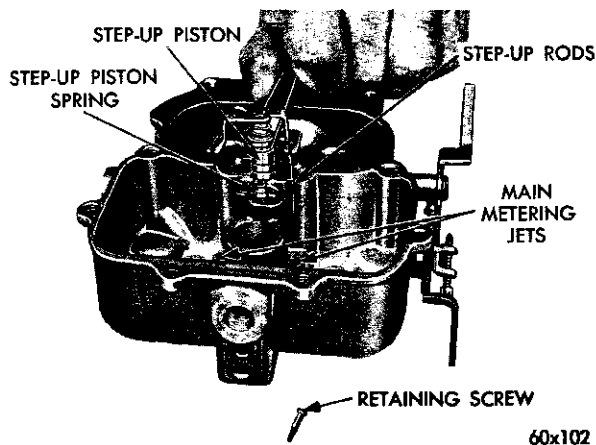

Fig. 23—Removing the Step-Up Piston
(6) Remove the fuel inlet needle valve, seat and gasket from the main body.
(7) Lift out the float fulcrum pin retainer, and lift out the floats and fulcrum pin.
(8) Remove the step-up piston and retaining screw and slide the step-up piston and rods out of well, as shown in Figure 23. Lift out the step-up piston spring. Remove the step-up piston gasket from the bottom of the well.
(8) Slide the step-up piston gasket down into position in the piston well, then install the step-up piston spring, step-up piston and rods. Carefully guide the step-up rods into the main metering jets. (Fig. 23). Install the retaining screw and tighten securely. Check piston for free operation in the well.